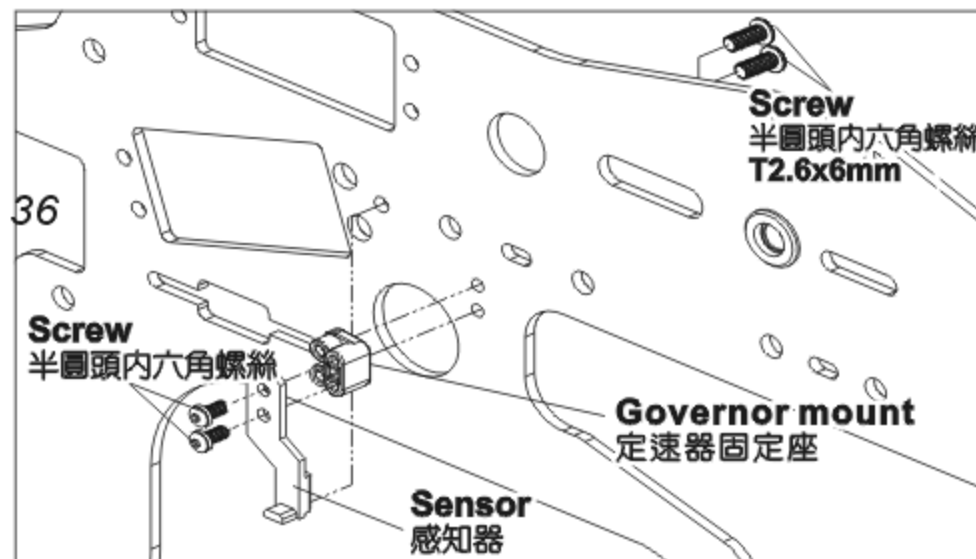

Fig.2
- See Fig. 2, install the sensor on the main frame, and check if any interference caused by the clutch bell.